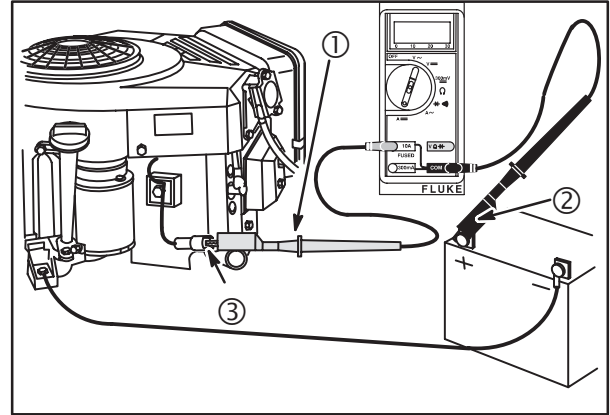

Fig. 25
4. Attach RED test lead clip (1) to RED DC output terminal (3) on regulator-rectifier, **Fig. 25**.